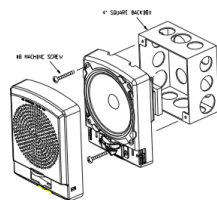

Figure 7: Four-Inch Square Backbox Mounting
NOTE: Surface backbox (LSPKBB) shown in Figure 7, is compatible with wiremold and conduit. Mounting holes are for single-gang, double-gang, and #10 wood screws for stud mounting. If metal conduit is installed onto top and bottom conduit entrances, then an insulated grounding wire (18 AWG, supplied) must be connected between the top and bottom plate by using thread cutting screws (supplied) to provide electrical continuity per UL 50.
8. All models can be flush mounted to a 4" square by 2-1/8" deep backbox in the wall, refer to Figure 7.